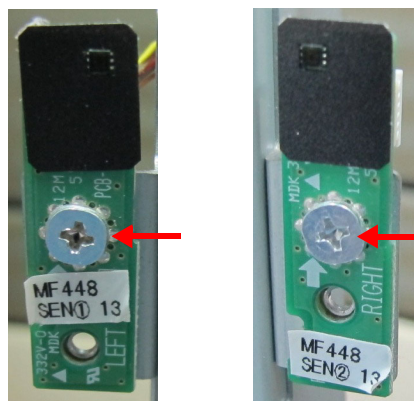

Figure 8-57 Light Sensors - Location of Securing Screws
3.) Remove the left and right light sensors by unscrewing the Light Sensors' securing screws as shown in Figure 8-57.